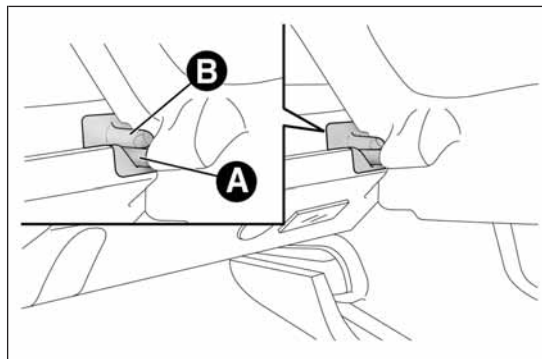

fig. 65
- ❑ free the pins A fig. 65 on the outside of the shelf from the housings B in the side mountings, then remove the parcel shelf;